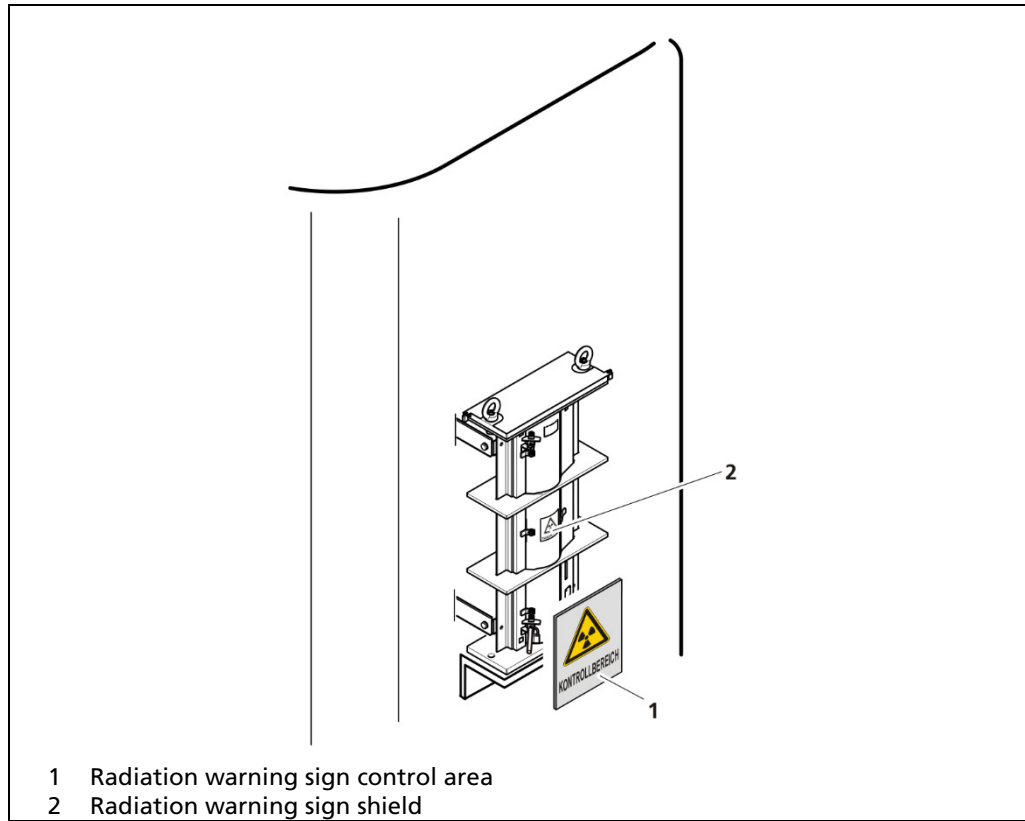

Fig. 8 Exemplary labeling
The radiation warning sign (Fig. 8, item 1) indicates the beginning of the control area as long as the control area is outside the shield.
If the control area is within the shield, then the radiation warning sign (Fig. 8, item 2) already applied to the shield is sufficient. Fig. 8 shows an exemplary identification of the control area according to German law. Please observe the local legislation of the country of install.